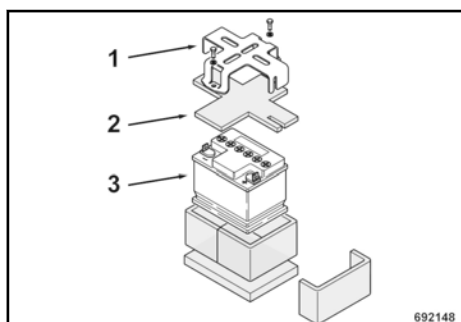

Fig. 44
Unscrew bracket (1) → Fig. 44 of the battery.